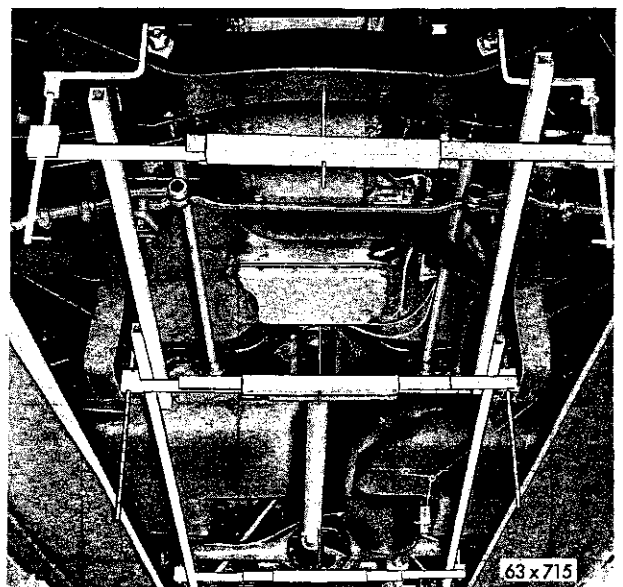

Fig. 15—Horizontal Checking Bars in Position
(3) Place the horizontal alignment bars on the suspended gauges. The short bars are positioned on the front and center gauges and the long bars are positioned on the center and rear gauges, as shown in Figure 15.
(4) The long and short bar should be placed against each other to determine if any body to frame deflection is evident.
(5) The top and bottom surfaces of the horizontal bars should be perfectly level across their combined surfaces where they meet, however, if this condition is not prevailing, raise both the long and short bar as a unit until they are perfectly level.